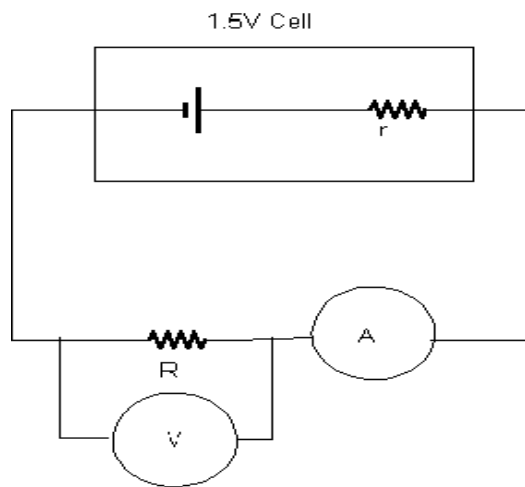

Figure 3
2. Take the 100 Ω resistor (R), measure and record its actual value.
3. Set up the circuit as shown in figure 3. Measure and record the current flowing through the resistor.